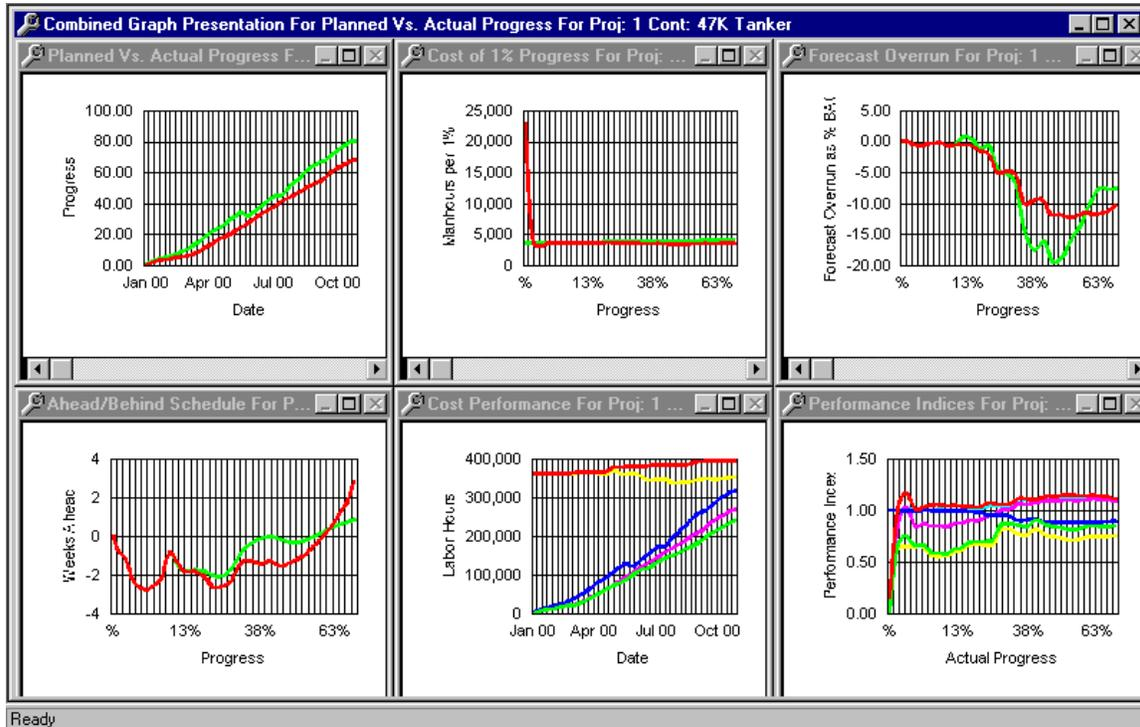

Figure 7-4: Sample Project Navigator Combined Graphs Display
- **Cost 1% Progress** tracks labor hours planned versus actual per one (1) percent of recorded progress.
- **Combined Graphs** display all of the above graphs, except for the Material Cost graph (Figure 7-4).
Figure 7-4 provides a sample of the combined graphics option from the Project Navigator pop up menu. The individual graphs can be expanded to full window by clicking on the maximize border button at the upper right corner of the desired graph.